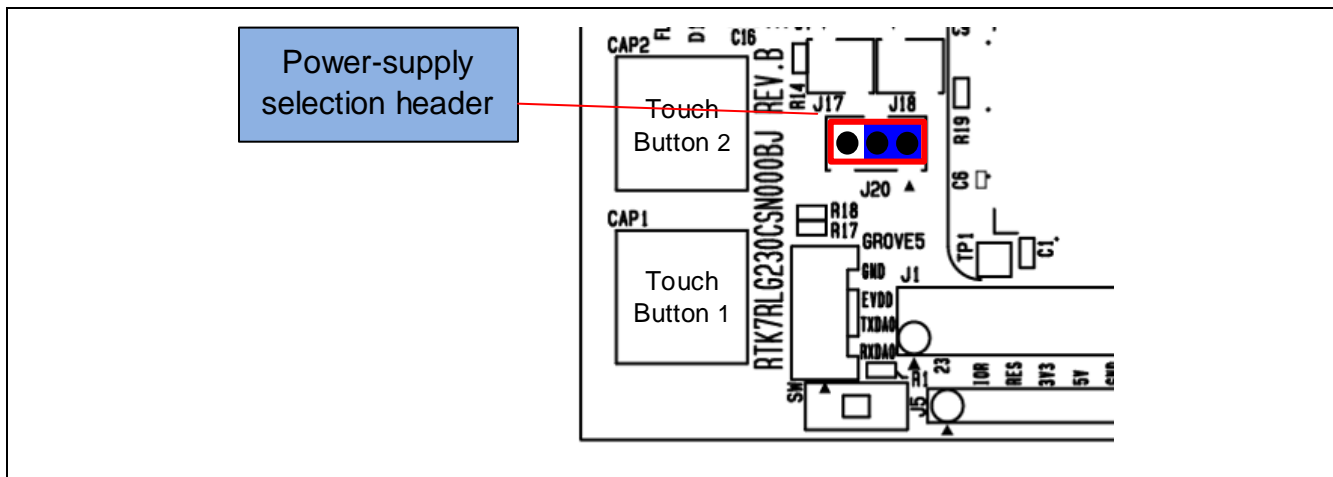

Figure 5-5 Setting of the Header to Select a 5-V Power Supply (Top Side)
- 1-2 of J20 being short-circuit selects a 5-V power supply. This is the default setting as shipped (Figure 5-5).
As shown in Figure 5-5, Setting of the Header to Select a 5-V Power Supply (Top Side), use QE with the circuit retaining its default connections.